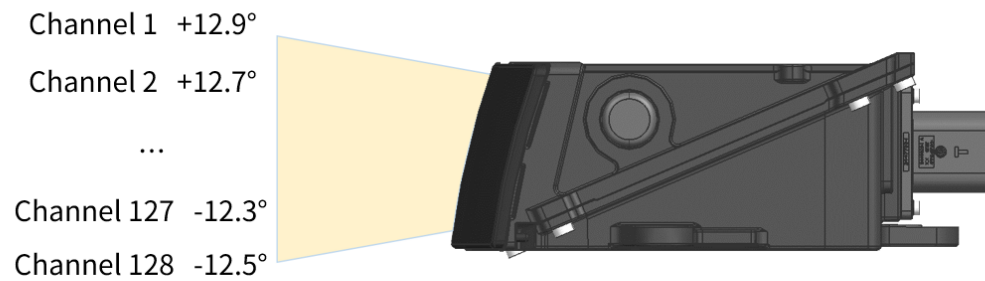

Figure 4. Channel vertical distribution
- The designed vertical resolution is 0.2° across the FOV, as shown in Figure 4. Channel vertical distribution and detailed in Appendix A, Channel distribution data.